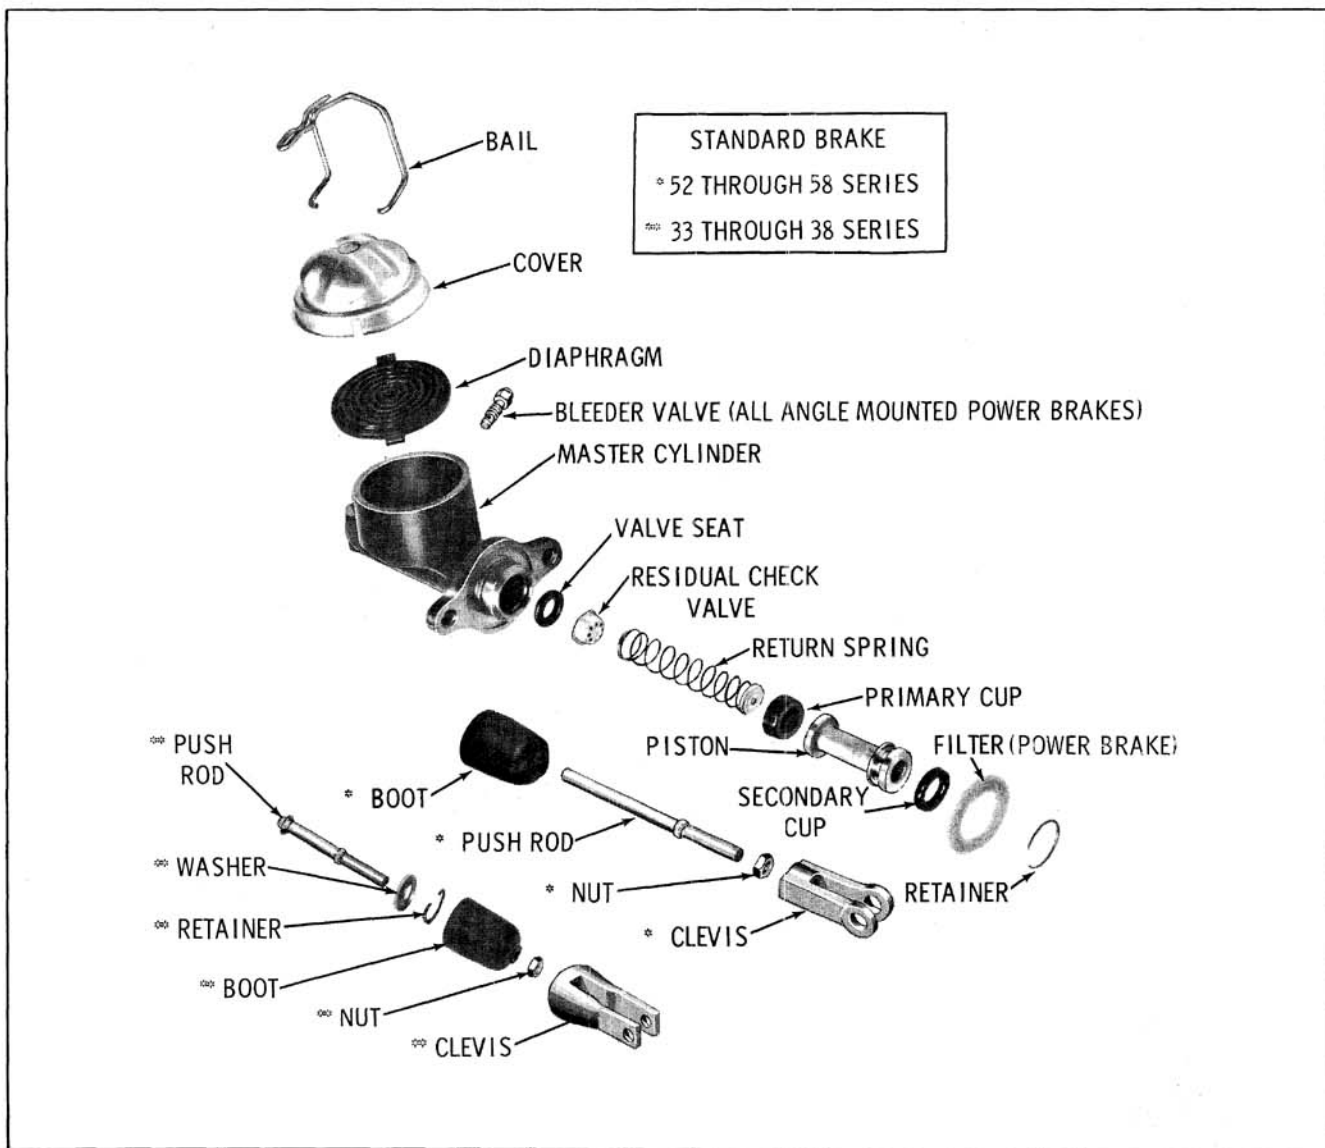

Fig. 11-11 Master Cylinder (Moraine)
**Disassembly (Figs. 11-11 & 11-12)**
### Assembly (Figs. 11-11 & 11-12)